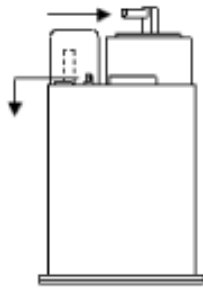
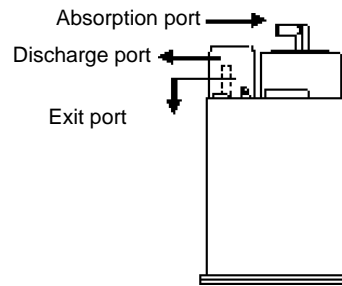

Figure 3-13
Figure 3-14
(1) Check for crack or damage on the canister visually (see Figure 3-13).
(2) Check the operation of the canister.
a. Plug the discharge port (see Figure 3-14).